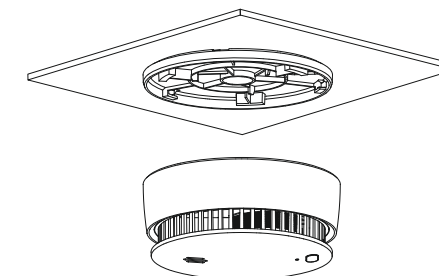

Figure 5
**Step 5.** Rotate the device according to the corresponding position and direction as shown in the figure 5. Please ensure it is firm.